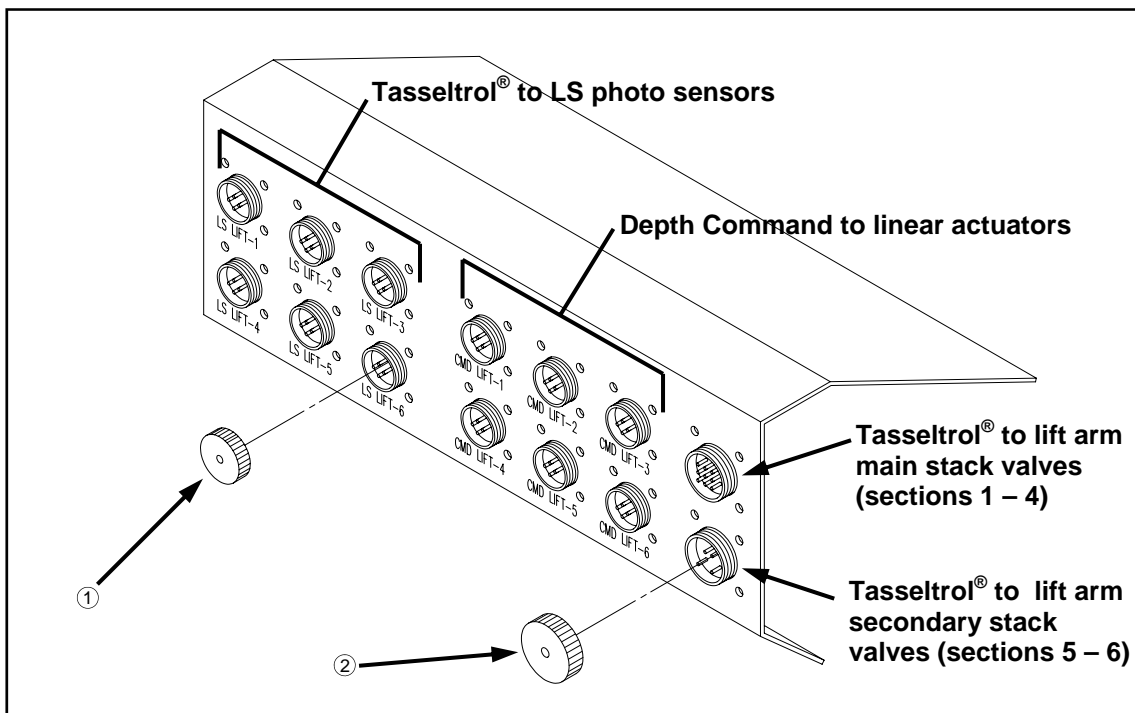

FIG 3.30
All “jumper” ports not used (or when machine is converted to sprayer) should be “capped” (fig. 3.30, items 1 & 2) to protect connection points. LS and Depth Command ports use the small cap (fig. 3.30, item 1) and the lift arm stack valve harness ports use a slightly larger cap (fig. 3.30, item 2). Refer to 2101 SPRAYER/DETASSELER Parts Manual for correct hardware.